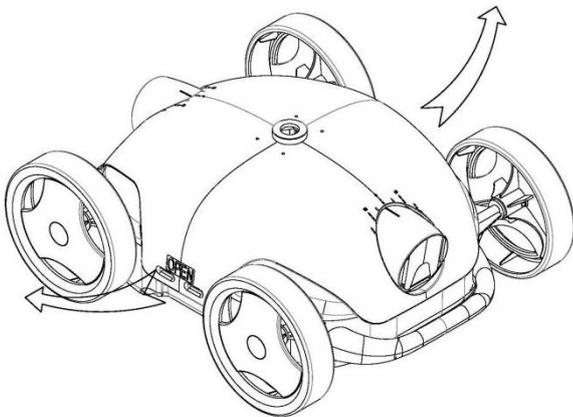
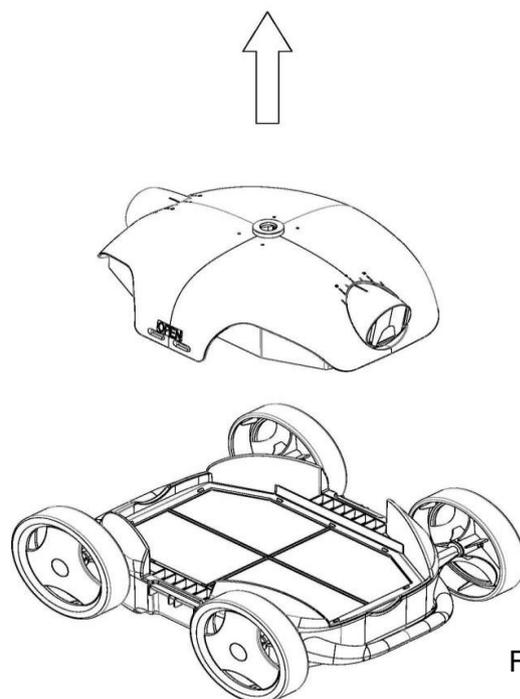

Fig. 5-8
Fig. 5-9
5.5.1 Open the cleaner from both side of the machine (Fig 5-8,and Fig 5-9)